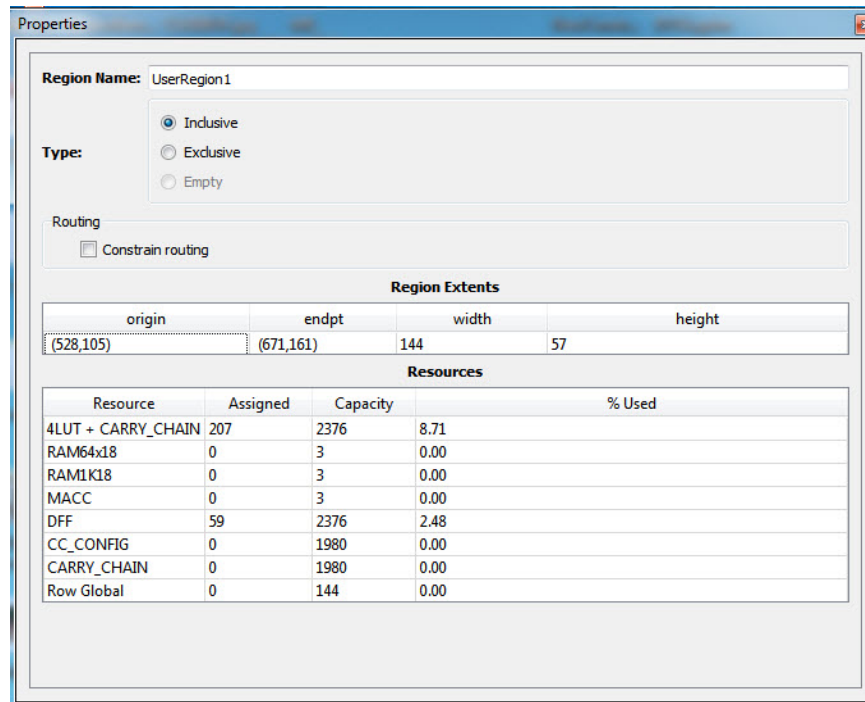

Figure 1-18 • Example of Properties Window (Region)
- Constrain routing - Instructs the Place and Route tool to apply routing restrictions (in addition to Placement restrictions) to the user regions. Refer to Figure 1-18 • Example of Properties Window \(Region\) for details.